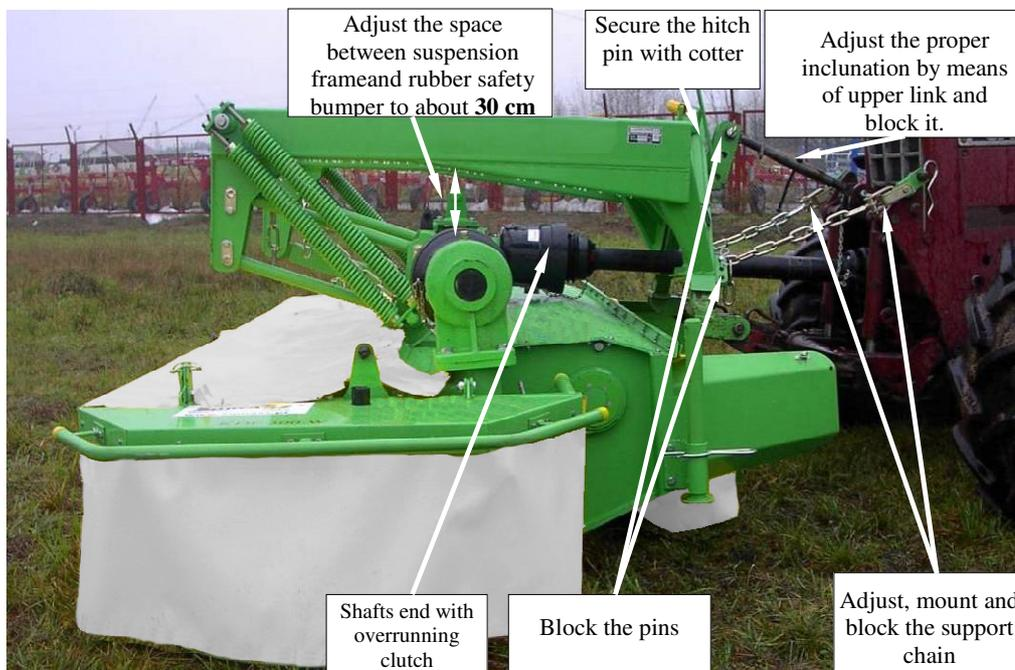
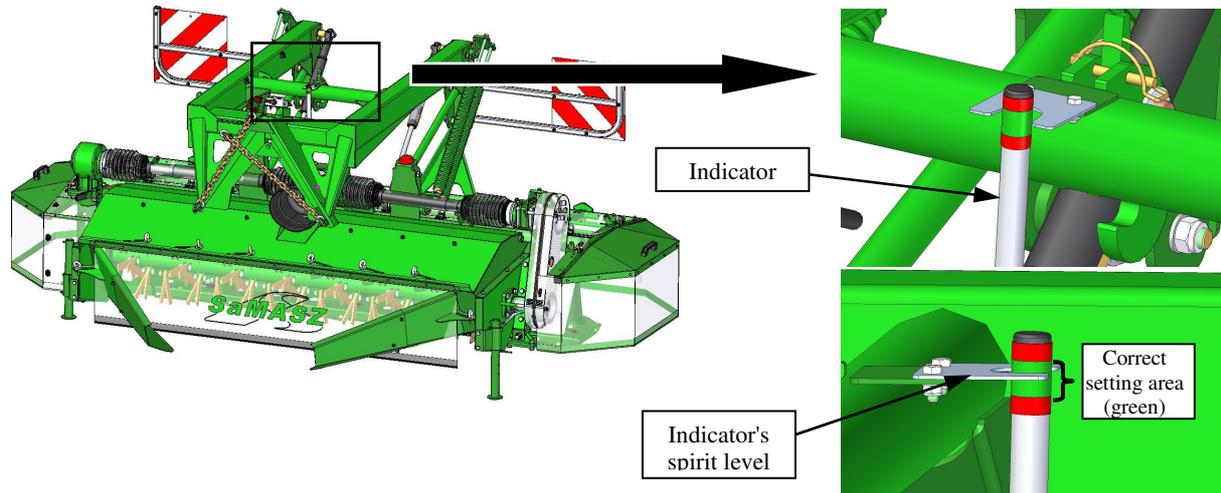

Fig. 10. Mounting the mower on hitch triangle, cat. II
Fig. 11. Correct clearance setting (around 30cm)
After the mower has been attached to tractor, check the balance and steerability of tractor-mower set. To do this, calculate to formulas given in the appendix or weigh the set, and then drive on the scales only with front axis of the tractor (the mower must be in transport position – lifted upwards). If the pressure on the rear axis is at least 20% of the whole set's pressure, it means the set is stable. If not, the rear axis should be balanced. After having mounted the hitch triangle on the 3-point linkage drive perpendicularly to the mower, using upper strand set the hitch triangle so it is parallel to the machine's triangle (Fig. 10), lift the 3-point linkage until the mower is in the air and the triangle in place. Secure the hitch triangle with pin and connect it with spring cotter. Finally adjust the length of chains (it. 5.3).
Once the mower is aggregated with the tractor, lift the mower using strands, and then using the mower's hydraulics, lower it onto such height that the indicator's green area is on the indicator's spirit level height (**Fig. 11**). With such setting, the clearance between the suspension frame and rubber bumper base shall be around 30cm (**Fig. 10**).
- ❑ lift the mower on tractor's 3-point linkage until the space between the frame suspension and a rubber safety bumper reaches about 1' (**Fig. 10**),
- ❑ check the space between the frame suspension and a rubber safety bumper. If the space is lower or higher than 1', correct it (**Fig. 10**).